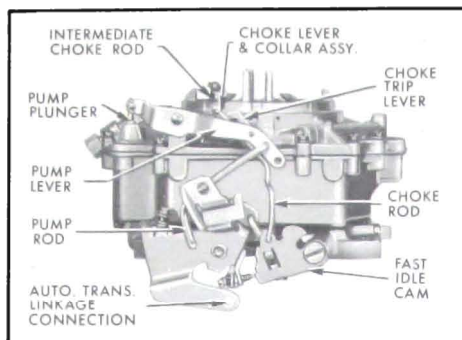

Figure 3-46—Exterior Linkage
1. Remove spring clip from upper end of intermediate choke rod and disengage rod from choke shaft lever. See Figure 3-46.
3. Remove clip from upper end of choke rod. Remove choke trip lever and attaching screw. Remove choke lever and collar assembly from choke shaft. See Figure 3-46.
21. Install choke rod, and choke lever and collar assembly. Install choke trip lever on end of choke shaft with "RP" out and tighten attaching screw. See Figure 3-46.